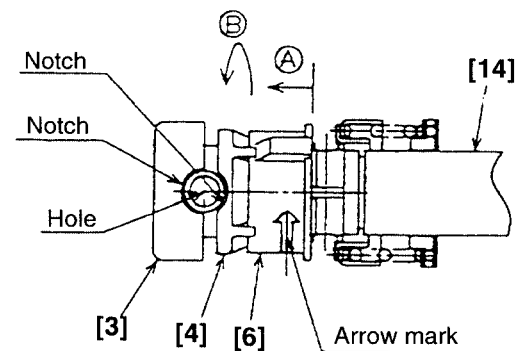

Fig. 9
Apply Doubrex 251 grease (Code No. 971042) to the inner circumference of Holder Sleeve (B) [4] and the cam groove of the Plunger [14]. Insert the tip of the Plunger [14] into Holder Sleeve (C) [6], Holder Sleeve (B) [4] and Holder Sleeve (A) [3] in order. Next, align the hole of the Plunger [14] with the notches of Holder Sleeve (A) [3] and Holder Sleeve (B) [4] as shown in Fig. 9. Insert the Holder Pin [1] into the hole and push it in. Slide Holder Sleeve (B) [4] and Holder Sleeve (C) [6] forward and turn them about 90° clockwise viewing from "A". Insert the two Steel Balls D4.76 [5] (use the arrow marks shown in Figs. 9 and 10 as the reference). Insert the other end of the Plunger [14] into the Guide Washer [7], Dust Washer [8], Spring (A) [9], Washer (D) [12], Thrust Bearing [11] and Washer (E) [10] in order. Mount the Retaining Ring (E-type) for D14 Shaft [13] securely by adjusting Spring (A) [9]. Be careful of the projections and depressions on Holder Sleeve (B) [4] and Holder Sleeve (C) [6] when mounting. After reassembly, test-mount and remove a saw blade to check for proper operation.